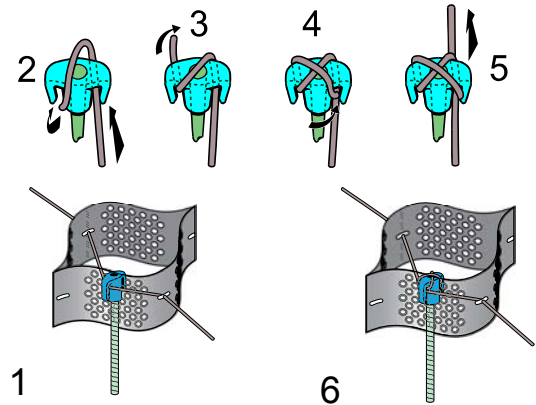

Figure 16 Moore Hitch Non-Slip Connection
Individual tendons are typically cut to a total length equal to: 1.15 x expanded Geoweb® section length + 1.0 m (3 ft) to allow for loops, etc. and + 0.15 m (6 in) for each ATRA Clip used per Figure 16 Moore Hitch Non-Slip Connection.
- The recommended method of attachment uses the ATRA® Anchor and a mooring hitch Presto Geosystems refers to as the “Moore Hitch”. See Figure 16.